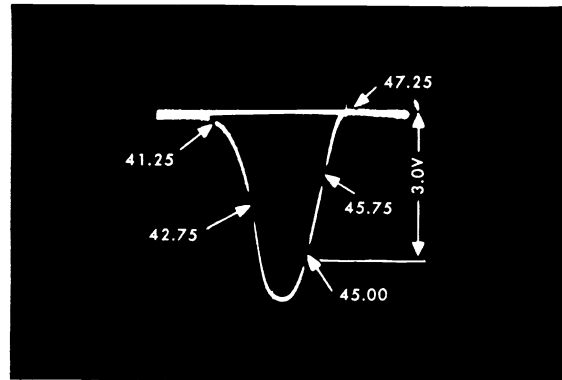

Fig. 20 Overall IF Response.
4. Adjust the fourth, third, second and first IF to obtain a response curve similar to Fig. 20. It will be noticed that the 1st IF coil has the greatest effect on rounding out the nose of the band pass.